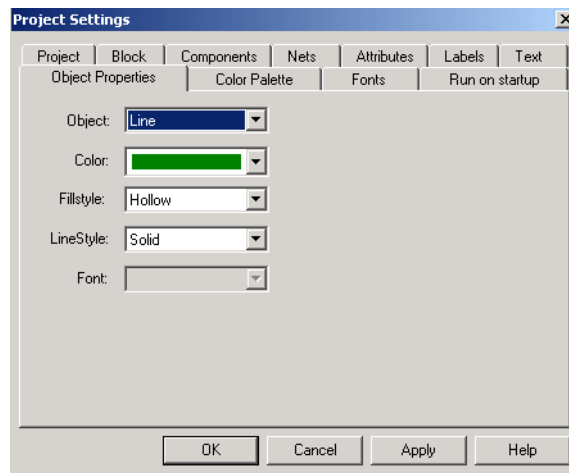

Figure 5-26. Object Properties Tab in Project Settings Dialog Box
2. **Click the *Object Properties* tab as shown in Figure 5-26.**